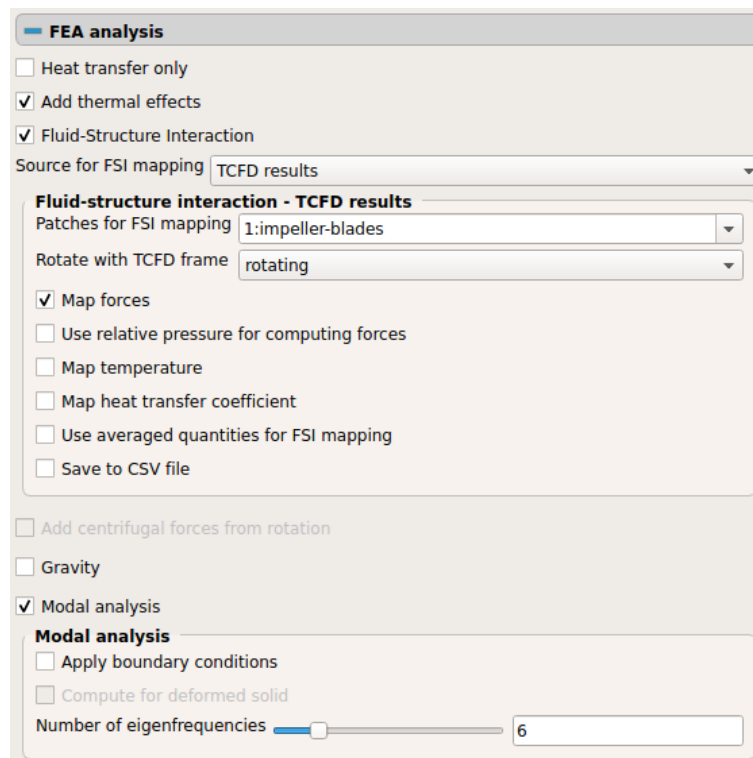

Figure 18.3: TFEA – FEA analysis.
The layout of the FEA Analysis card is shown in Figure 18.3. In the beginning the four main checkboxes are to be specified, their combination then determines the structure of the rest of this card. We believe the names nicely describe what they do
- "CSV directory" entry is present only if "Source for FSI mapping" is set to "External directory with CSV files" (not visible in Figure 18.3). This specifies the path to the directory containing CSV files.
- "Files to map" entry is present only if "Source for FSI mapping" is set to "External directory with CSV files" (not visible in Figure 18.3). Here you select CSV files present in the directory that are used as a source of FSI forces.